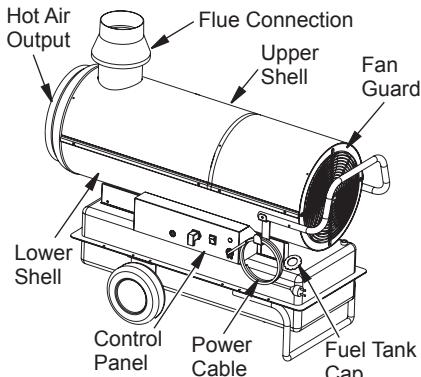

Figure 4 - Vented Portable Forced Air Heater
6. Insert the flue connection onto the flue outlet tube (see Figure 4).